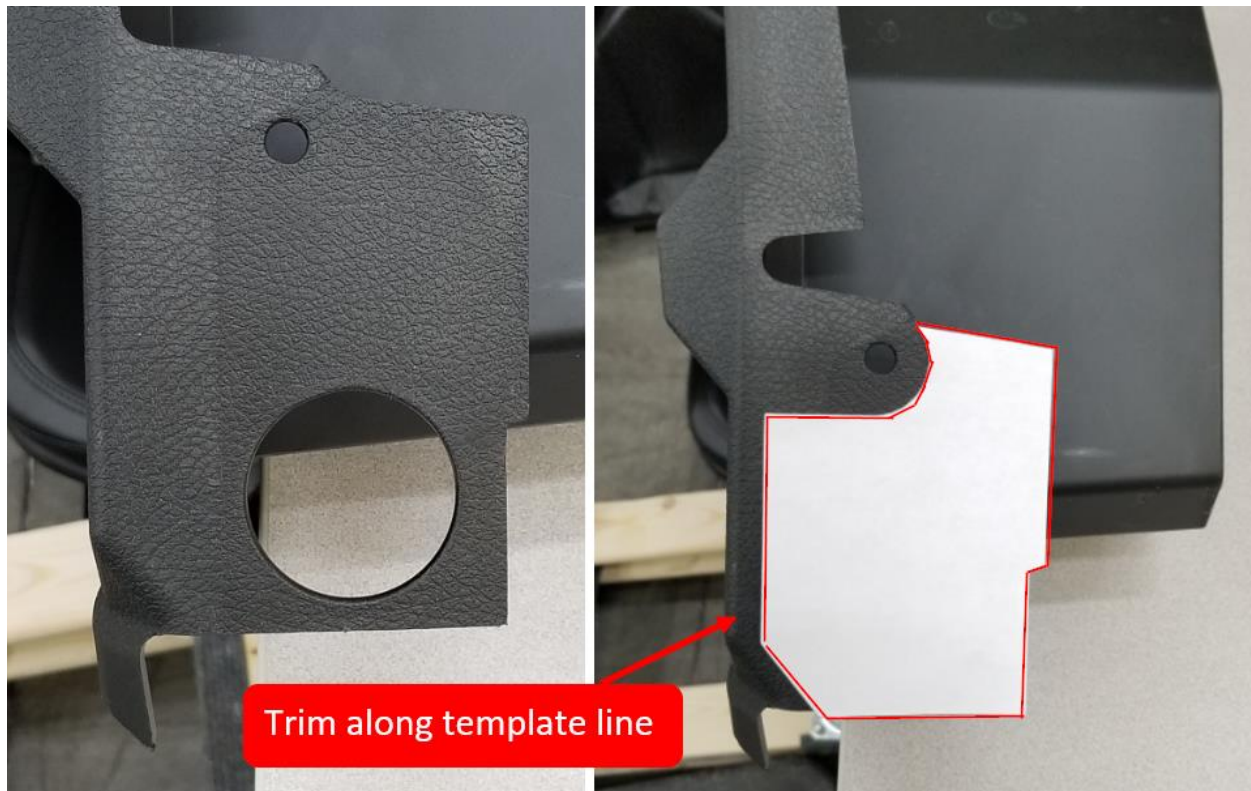

Figure 5
- e. Remove the Passenger's Center Tunnel side plate. This can require removing the rear seats, loosening panels from back to front in order to release the gear shift cover plate, which then allows the side plate to be removed. Position the Passenger Center Tunnel Side Plate Template as shown in Figure 5, and trim as shown.